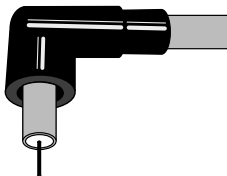

Figure 2
6. Strip the insulation from the  $\frac{1}{2}$ " of wire. (See Figure 2). CAUTION...Do not cut into or nick the conductor core when stripping away the insulation.